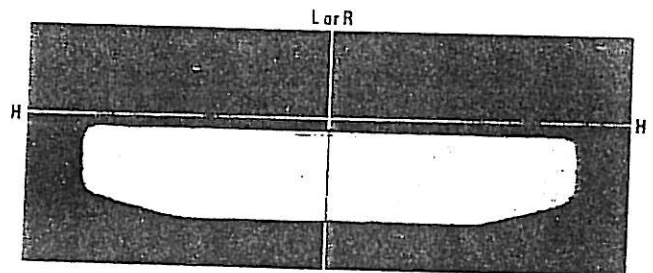

Fig. 9
- European symmetric dipped beam Fig. 9